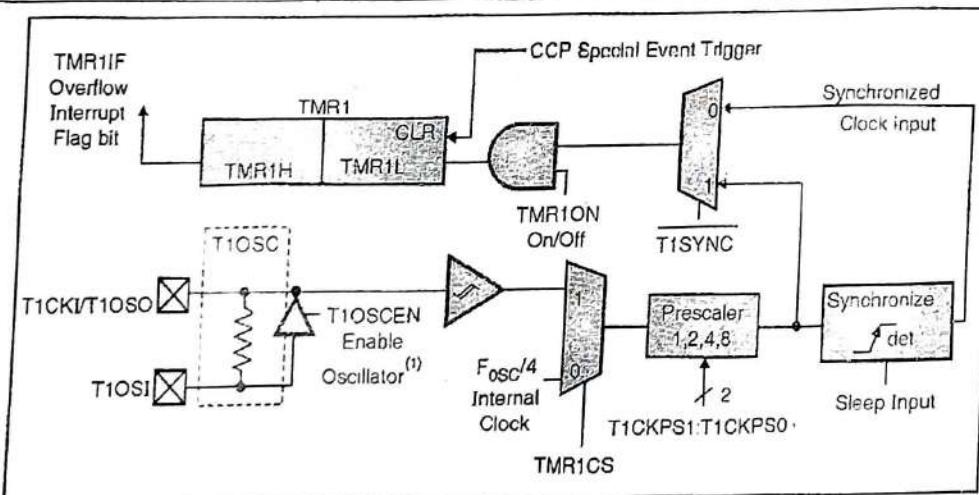

Fig. 5.4.1 : Timer 1 block diagram
- Fig. 5.4.1 is a simplified block diagram of the Timer 1 module.